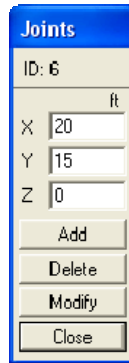

Figure 5-16 Joints dialog box
- From the Edit menu, choose Joints. The modeless dialog box of Figure 5-16 appears. Some text boxes may not be available, depending on the structure type selected.